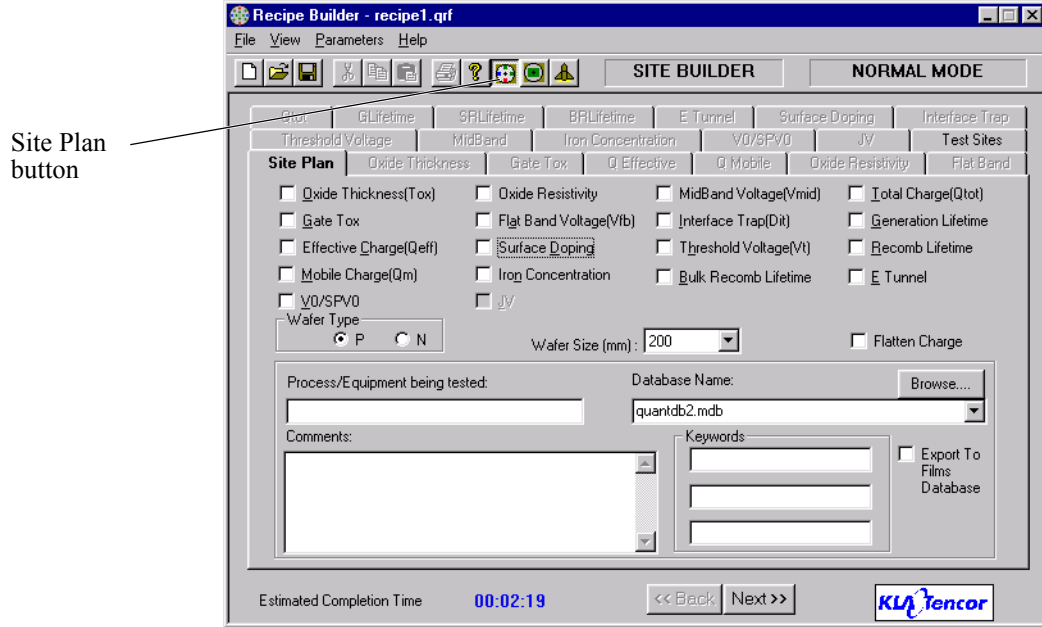
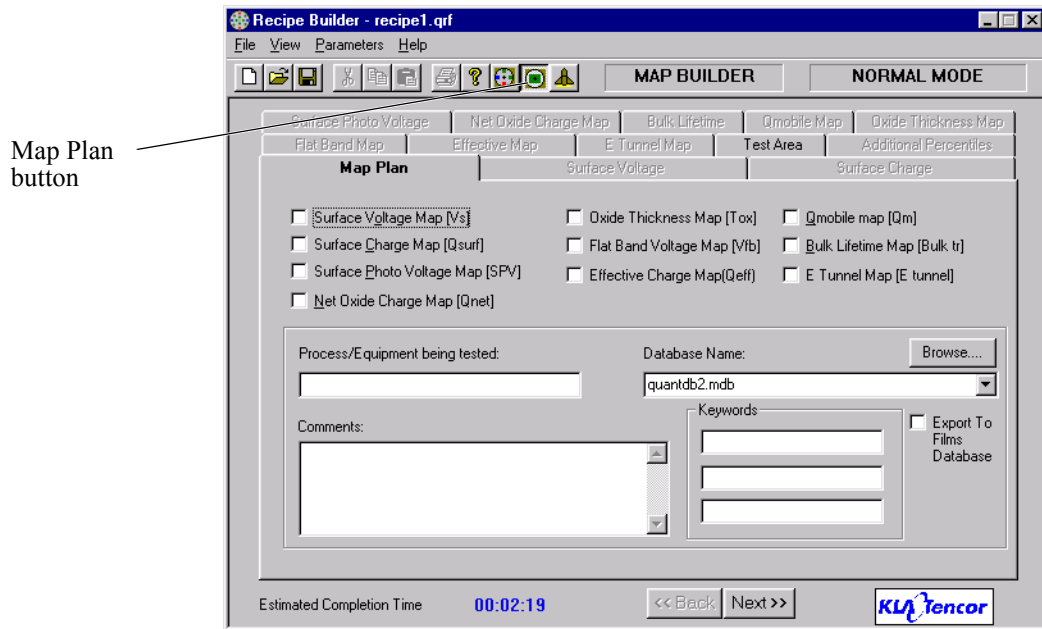

Figure 3-10: Recipe Builder, Site Plan
Figure 3-11: Recipe Builder, Map Plan
1. From within the Recipe Builder, choose the appropriate test plan (Site or Map) by selecting the plan from the View menu or by clicking its button in the toolbar (Figure 3-10 and Figure 3-11).